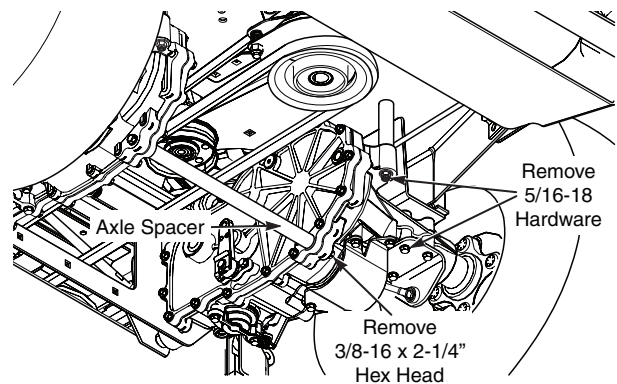

Figure 2-7. Remove Hardware
- Using a 9/16" wrench, remove the 3/8-16 x 2-1/4" hex head bolt used to secure the axle spacer to the right transaxle assembly. Be sure to retain the bolt, lockwasher and flatwasher. This hardware will be reused in step number 5. See Figure 2-7.
- Use two 1/2" wrenches to remove the 5/16-18 x 3" hex head bolt, 5/16-18 x 5" hex head bolt, 5/16-18 elastic stop nuts and 5/16" flatwasher shown in Figure 2-7. Be sure to retain the flatwasher. This will be reused in step number 4.